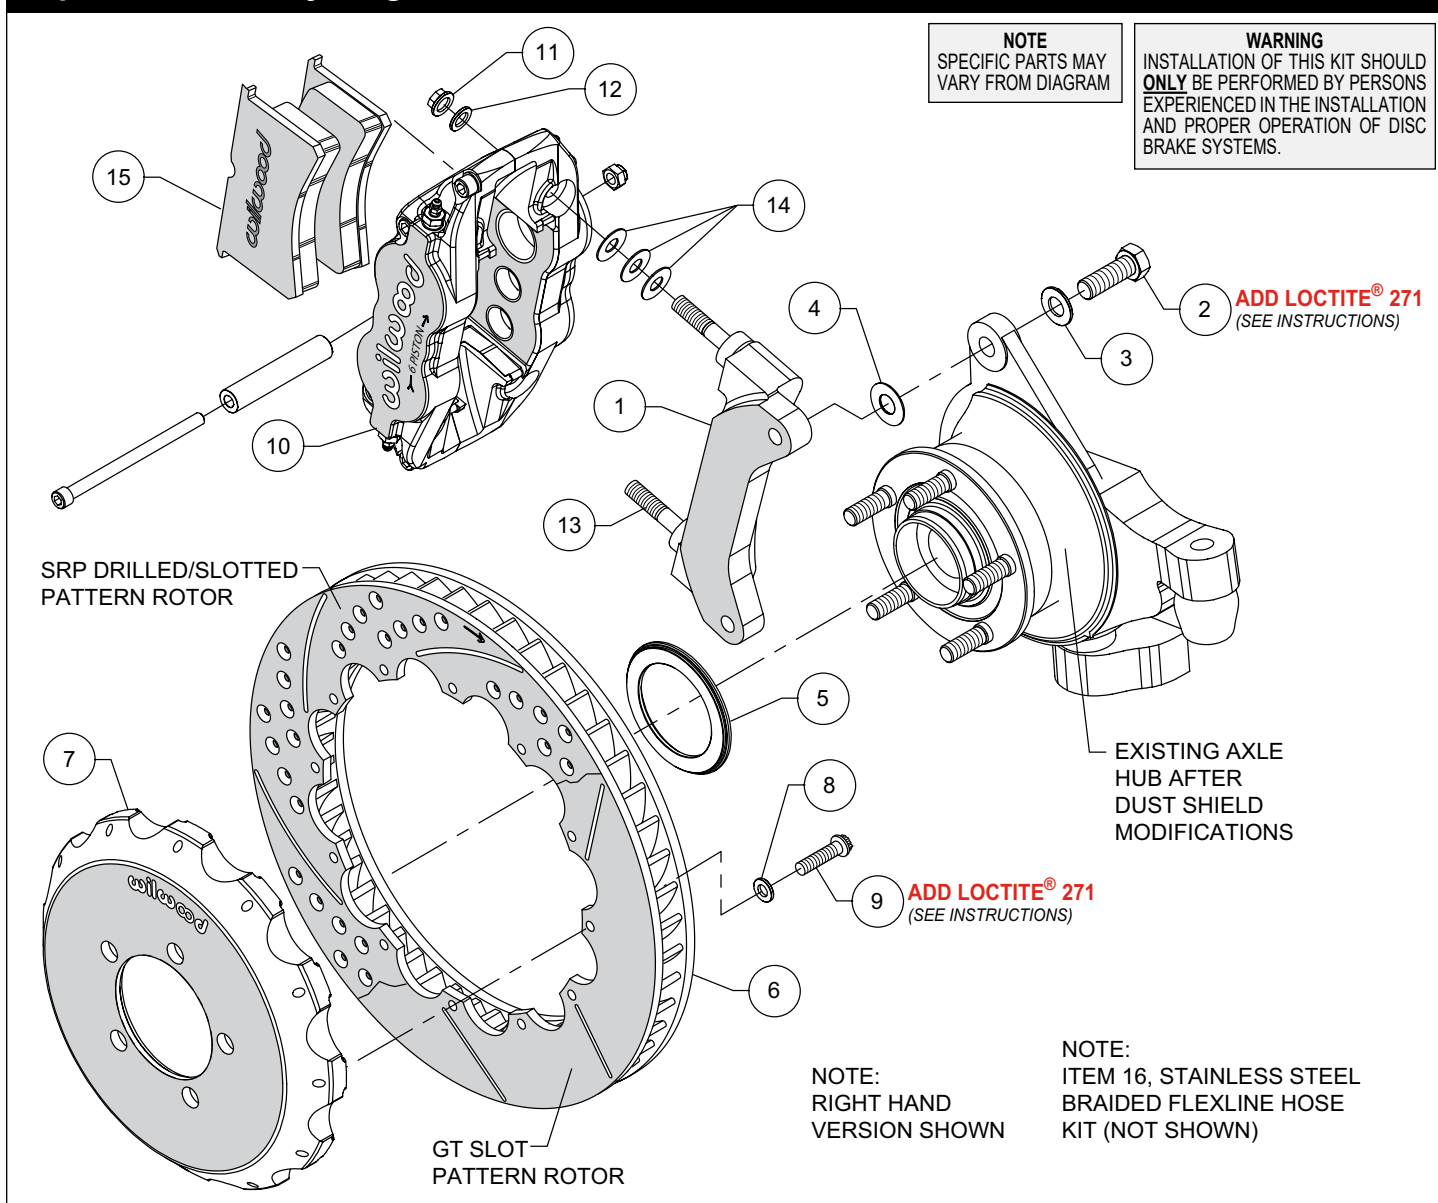
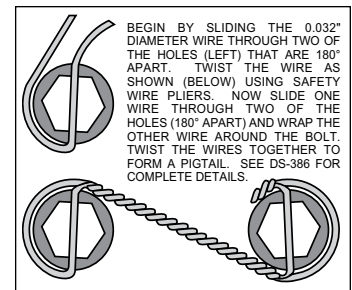

Figure 1. Typical Installation Configuration
Figure 4. Safety Wire Diagram
Assembly Instructions (numbers in parenthesis refer to the parts list and Figure 1 on the preceding pages):
- The caliper mount bracket (1) should initially be installed with clean, dry threads on the mounting bolts. Orient the bracket as shown in Figure 1, and install using washers (3) and bolts (2). Initially place one shim (4) on each bolt between the bracket and upright, Figure 1. Temporarily tighten the mounting bolts. **NOTE:** *The bracket must fit squarely against the mount bosses on the upright.* Inspect for interference from casting irregularities, machining ridges, burrs, etc. Later, after the caliper alignment has been checked, the mount bolts will be secured using red *Loctite*® 271.
- Orient the rotor (6) and the hat (7) as shown in Figure 1 and Photo 1. Attach rotor to hat using bolts (9) and washers (8). Apply red *Loctite*® 271 to the bolt threads and torque to 155 in-lb using a criss-cross pattern. For an added measure of security, the bolts may be safety wired using standard 0.032 inch diameter stainless steel safety wire as shown in Figure 4. Please refer to Wilwood's data sheet DS-386 (available at www.wilwood.com/Pdf/DataSheets/ds386.pdf) for complete safety wire installation instructions.
- NOTE:** *This kit contains distinct right and left hand calipers that must be mounted in a specific direction, as described below.* Initially place three .035" thick shims (14) on each stud (13) as shown in Figure 1 and Photo 3. Mount the caliper (10) onto the bracket (1) using lock nuts (11) and washers (12), Figure 1. Ensure that the caliper is mounted so that the largest pistons are at the rotor exit end of the caliper, in relation to the direction of rotor rotation. Temporarily tighten the lock nuts and view the rotor through the top opening of the caliper. The rotor should be centered in the caliper, Photo 4. If not, adjust by adding or subtracting shims (4) between the bracket and the upright. Always use the same amount of shims on each of the two mounting bolts. Once the caliper alignment is correct, remove the bracket mounting bolts (2) one at a time, apply red *Loctite*® 271 to the threads, and torque to 60 ft-lb.